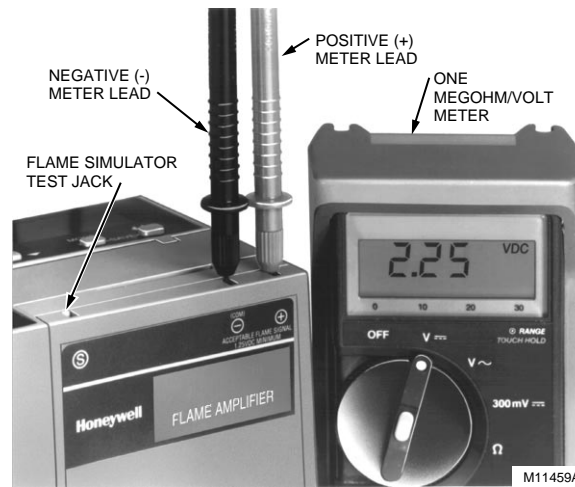

Fig. 4. Flame signal measurement with meter.
7. Check wiring, see Fig. 4.
Flame Signal Measurement (Fig. 4)
Flame signal can be measured at the Flame Signal Test Jacks, see Fig. 4, and at the Keyboard Display Module. Measure the flame signal at the appropriate times defined in the Checkout section; see applicable 7800 SERIES Relay Module Instructions. See Table 3 for acceptable and maximum flame signal voltage strengths.